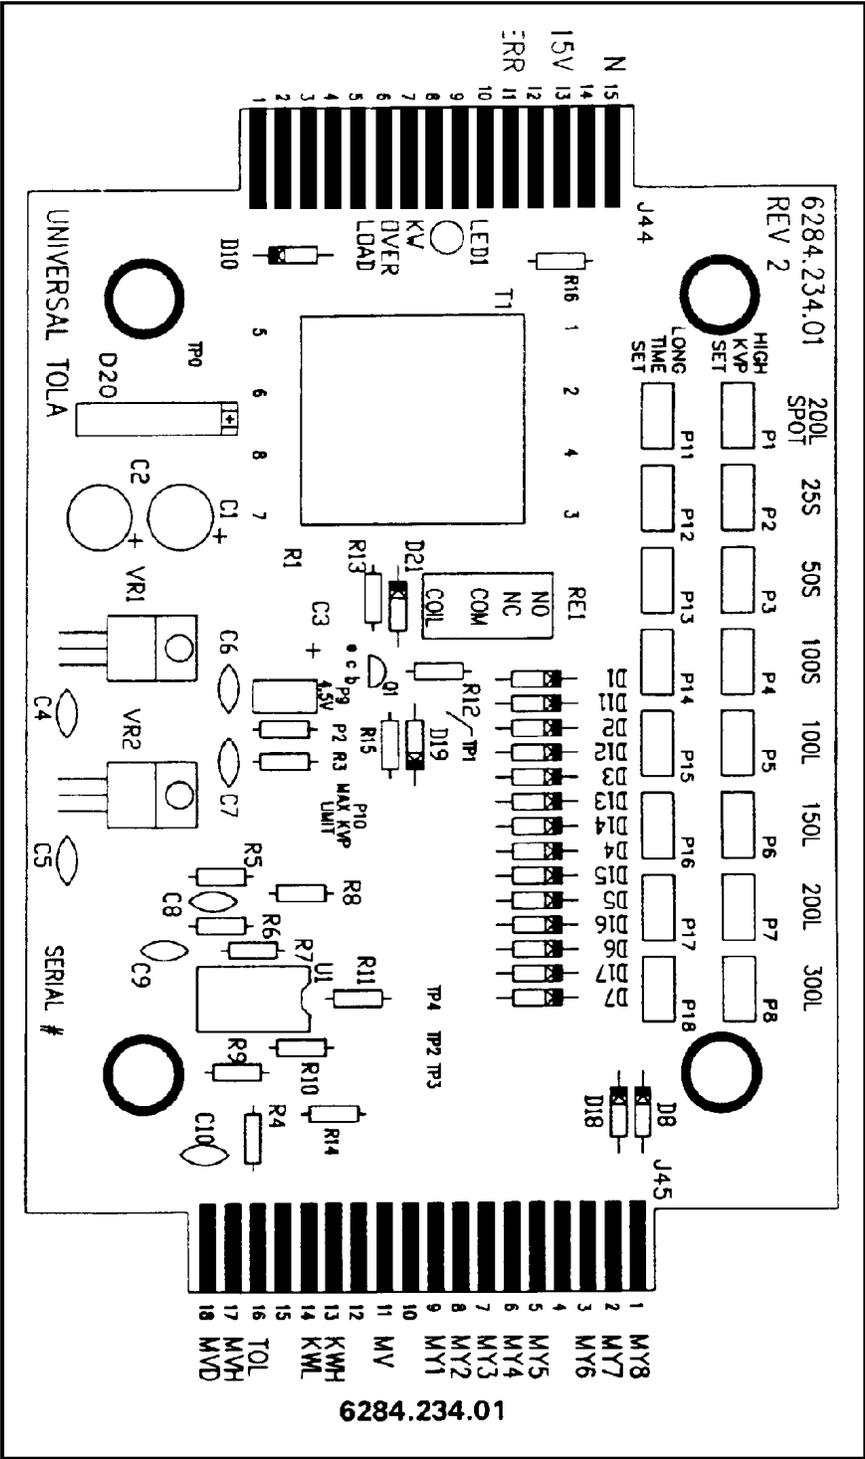
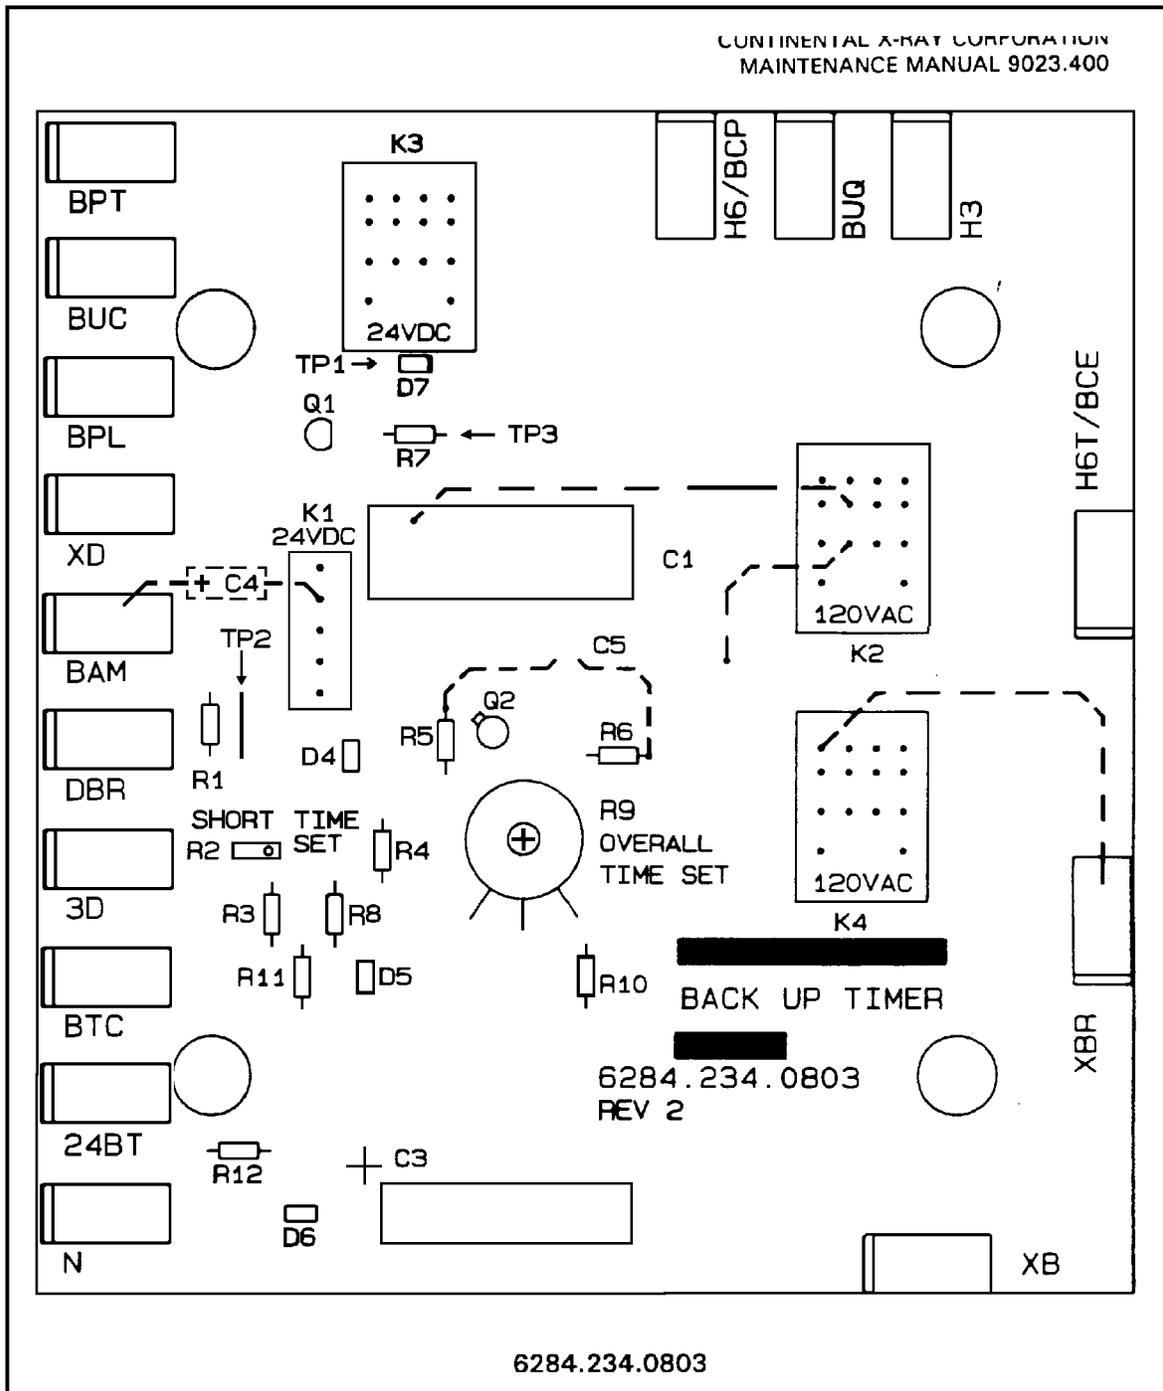
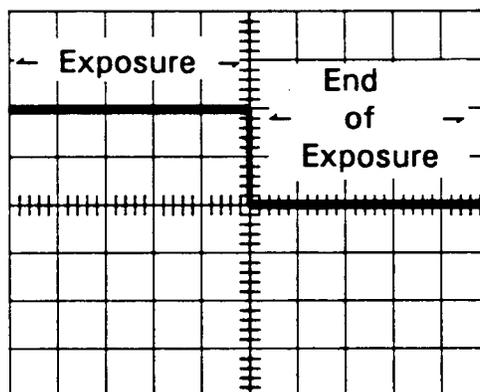
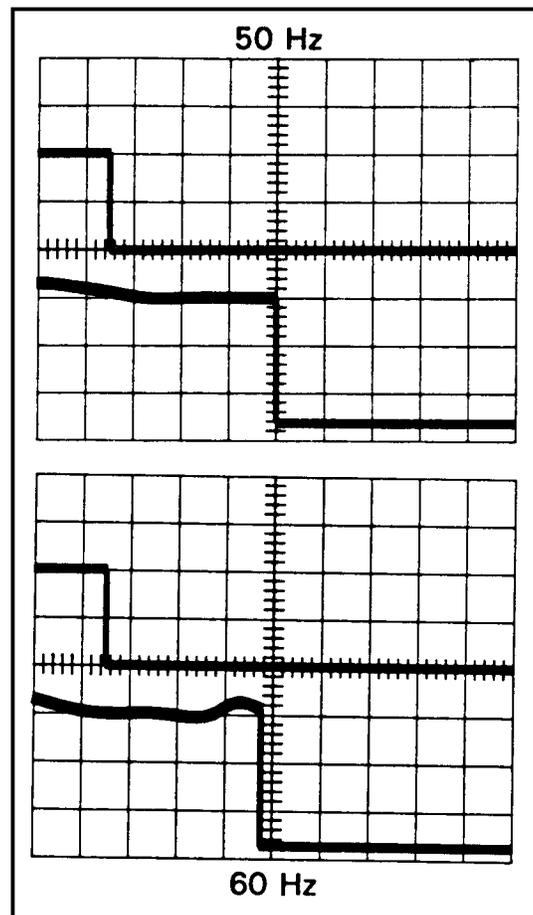

Figure 3-64
Figure 3-65
Figure 3-66
Figure 3-72
(2) Ensure the SAFETY RESET lamp is not illuminated when exposures are made of the techniques shown in the table.
(3) If the techniques shown are increased by one mA station, three kVp, or one time station, the SAFETY RESET lamp must illuminate.
(4) If the lamp illuminates or fails to illuminate at the increased setting, adjust the potentiometer indicated on the Universal TOLA assembly PCB located in the main control. (See Figure 3-64.)
(5) Turn the MAINS off.
- (1) Turn the MAINS off.
- (2) Locate the Back-up Timer PCB (6284.234.0803), Figure 3-57, in the main control and disable the Back-up Timer by removing lead 3D from its terminal. (See Figure 3-65.)
- (3) Turn the MAINS on.
- (4) Select <85 kVp> and <150L> mA. Place the X-ray calibration timer in the center of the X-ray beam.
- (5) Make an exposure at <1/120 second>. This should be precisely one pulse.
- (6) Make an exposure at <1/60 second>. This should be precisely two pulses.
- (7) Make an exposure at <2 seconds> (240 impulses). The X-ray calibration timer should read between 235 and 245 impulses ( $\pm 2\%$ ).
(2) Disable the Back-up Timer by removing lead 3D from its terminal. (See Figure 3-64.)
(3) Set the scope to 5 volts/division, vertical and 200 msec/division, horizontal, and connect the probe to M1 and the shield to G on the terminal strip.
(4) Turn the MAINS on.
(5) Select <80 kVp>, <200L> mA, and <1 second> technique. If the SAFETY RESET lamp illuminates, refer to step 2j.
(6) Press the PREPARE and EXPOSE push buttons and observe the oscilloscope display. The display should be high at the start of exposure, remain high for the duration of the exposure, and return low at the end of the exposure. (See Figure 3-66 for proper waveform appearance.)
(12) If the display is not as described, adjust pot P2 (Short Time) on the same PCB for the correct display.
(13) If pot P2 (Short Time) was adjusted, repeat the procedures for verification of "overall" time. Repeat adjustments until satisfactory results are obtained for both settings.
(14) Turn the MAINS off and reconnect lead 3D to its terminal on the Back-up Timer PCB. (See Figure 3-65.)
(2) Disable the Back-up Timer by removing lead 3D from its terminal. (See Figure 3-65.)
(3) Set the scope to 5 volts/division, vertical and 200 msec/division, horizontal.
(4) Turn the MAINS on and select <80 kVp>, <200L> ma, and <1 second> technique.
(5) If the SAFETY RESET lamp illuminates, refer to step 2j.
(6) Press the PREPARE and EXPOSE push buttons and observe the oscilloscope display. The display should be high at the start of exposure, remain high for the duration of the exposure, and return to low at the end of the exposure. (See Figure 3-66 for proper waveform appearance.)
(1) Turn the MAINS off and connect channel 2 of the scope to TP1 (bar on D7 indicates cathode of D7) on the Back-up Timer PCB (6284.234.0803). (See Figure 3-65.)
(7) If the display requirements are not met, adjust pot R9 (Overall Time Set) on the Back-up Timer PCB (6284.234.0803) and repeat step 2n(6). (See Figure 3-65.)
(8) Select <1/120th second> on the time select dial, leaving all other technique factors the same.
(9) Set the oscilloscope to display 5 msec/div., leaving the vertical display as is, and set the oscilloscope to trigger on channel 1.
(10) Depress the PREPARE and EXPOSE push buttons while observing the oscilloscope display.
(11) If the display on channel 2 should end 3 horizontal divisions (15 msec.) after the display on channel 1, proceed to step 2m(14). (Refer to Figure 3-72 for correct scope reading.)